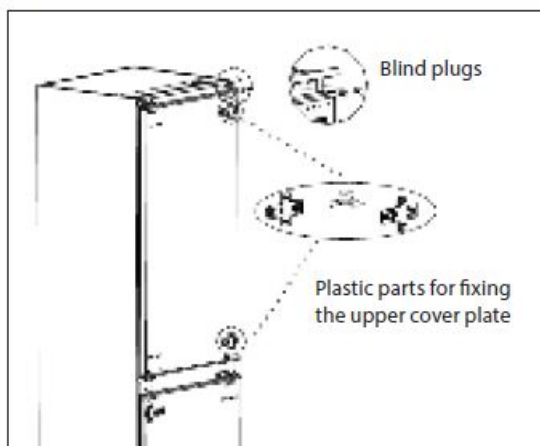

Fig. 6
7. Move the blind plugs of the hinges to the other side of the appliance (Fig. 6).
8. Turn the plastic parts for fixing the upper cover plate by 180 ° and move to the other side of the refrigerator door (Fig. 6).